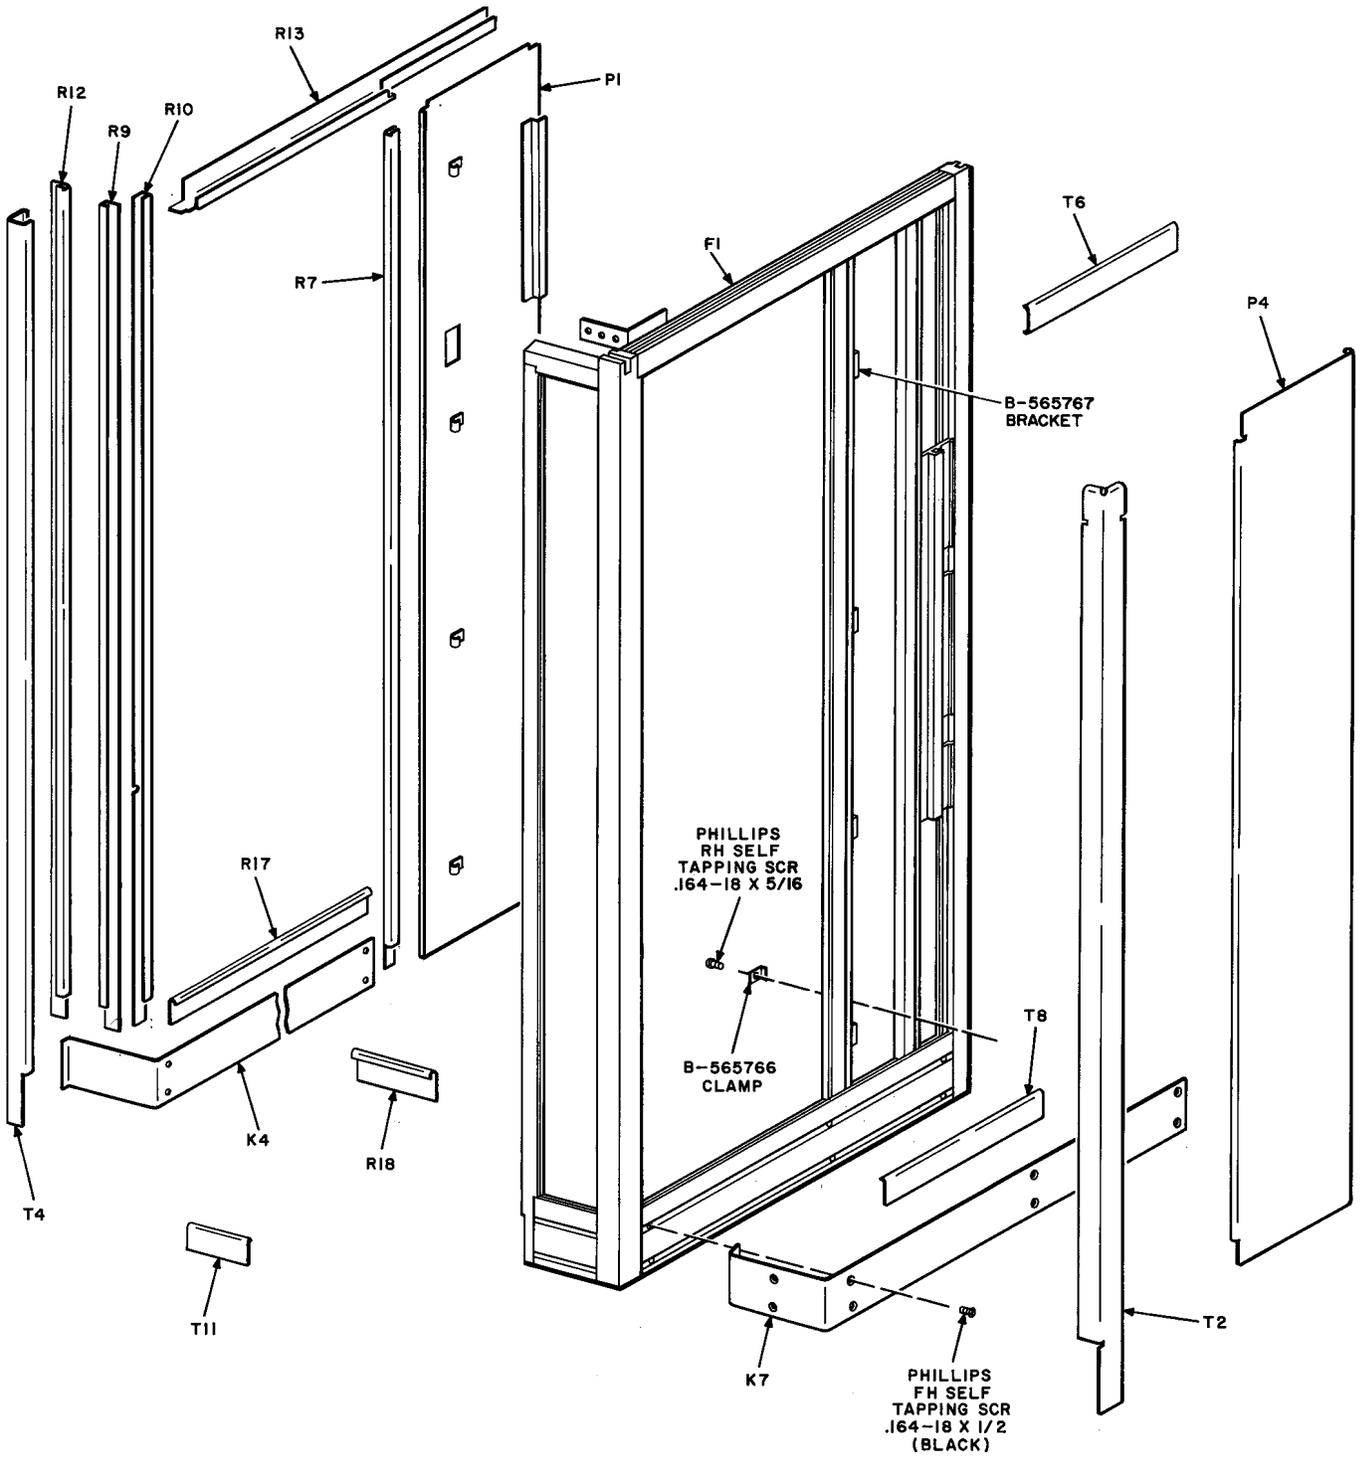

Fig. 8—Exploded View of Right Wall
- (1) Perform operations outlined in (b)(1) through (5).
- (2) Remove twelve 0.164-18 by 5/16 Phillips round head self-tapping screws and four B-565766 clamps from each panel (Fig. 8 and 9).
- (3) Install using reverse procedure.